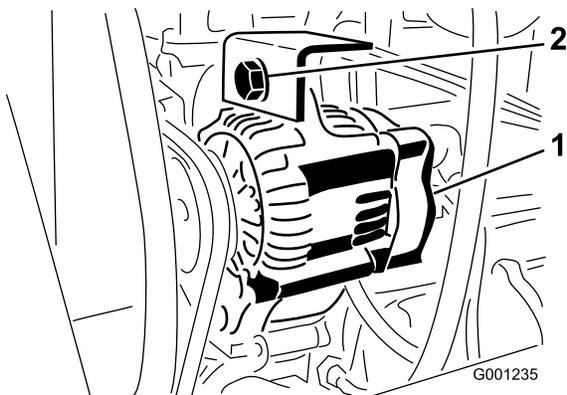

Figure 74
2. Loosen the mounting bolt for the alternator (Figure 74)
3. Increase or decrease the tension on the alternator belt and tighten the mounting bolt (Figure 74).